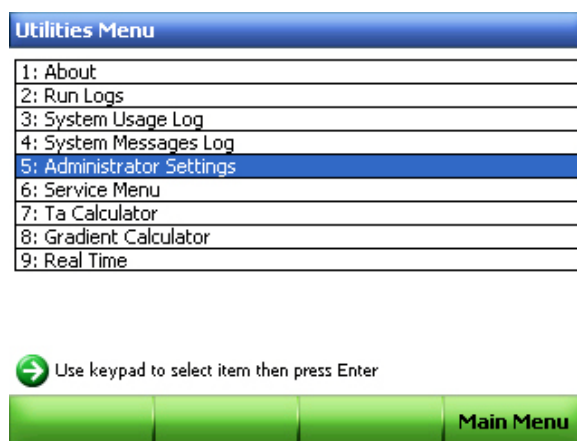

Figure 51. Utilities Menu.
4. In the Utilities Menu, select 5: **Administrator Settings** (Figure 51).
5. In the Administrator Settings Menu, select 9: **SMTP Server Settings** (Figure 51).